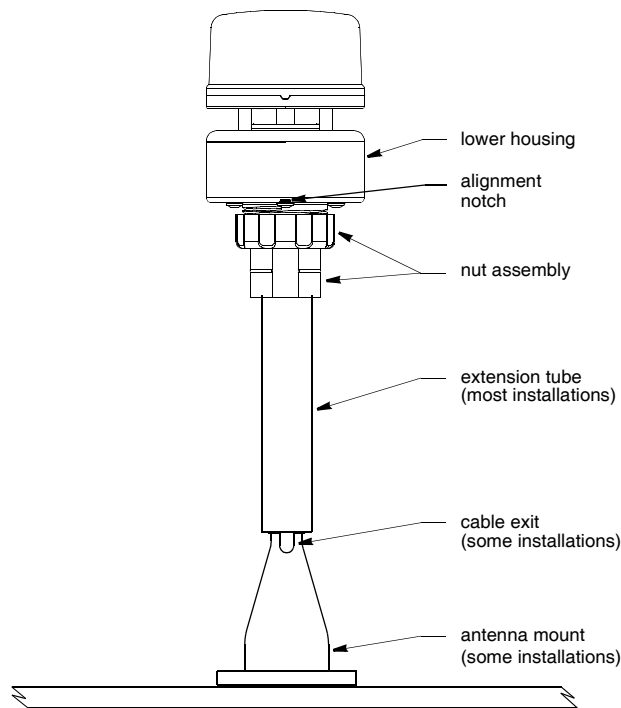

Figure 4. Installation (150WX shown)
1. Place the mounting hardware at the selected location. Orient any cable exit in the direction that you want the cable to travel (Figure 4).
5. Slide the captive nut upward and screw it onto the lower housing of the WeatherStation Instrument (Figures 4 and 5). **Hand tighten** only. Do not over-tighten. *Be careful not to rotate the WeatherStation Instrument, changing the alignment or loosen the nut assembly from the antenna mount/extension tube.*